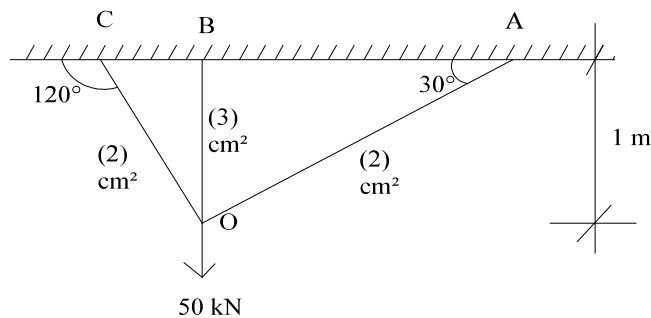

Fig.3
1. Resolve the forces in the members of the truss shown in Fig.3 by finite element method. Take $E = 200 \text{ GPa}$.